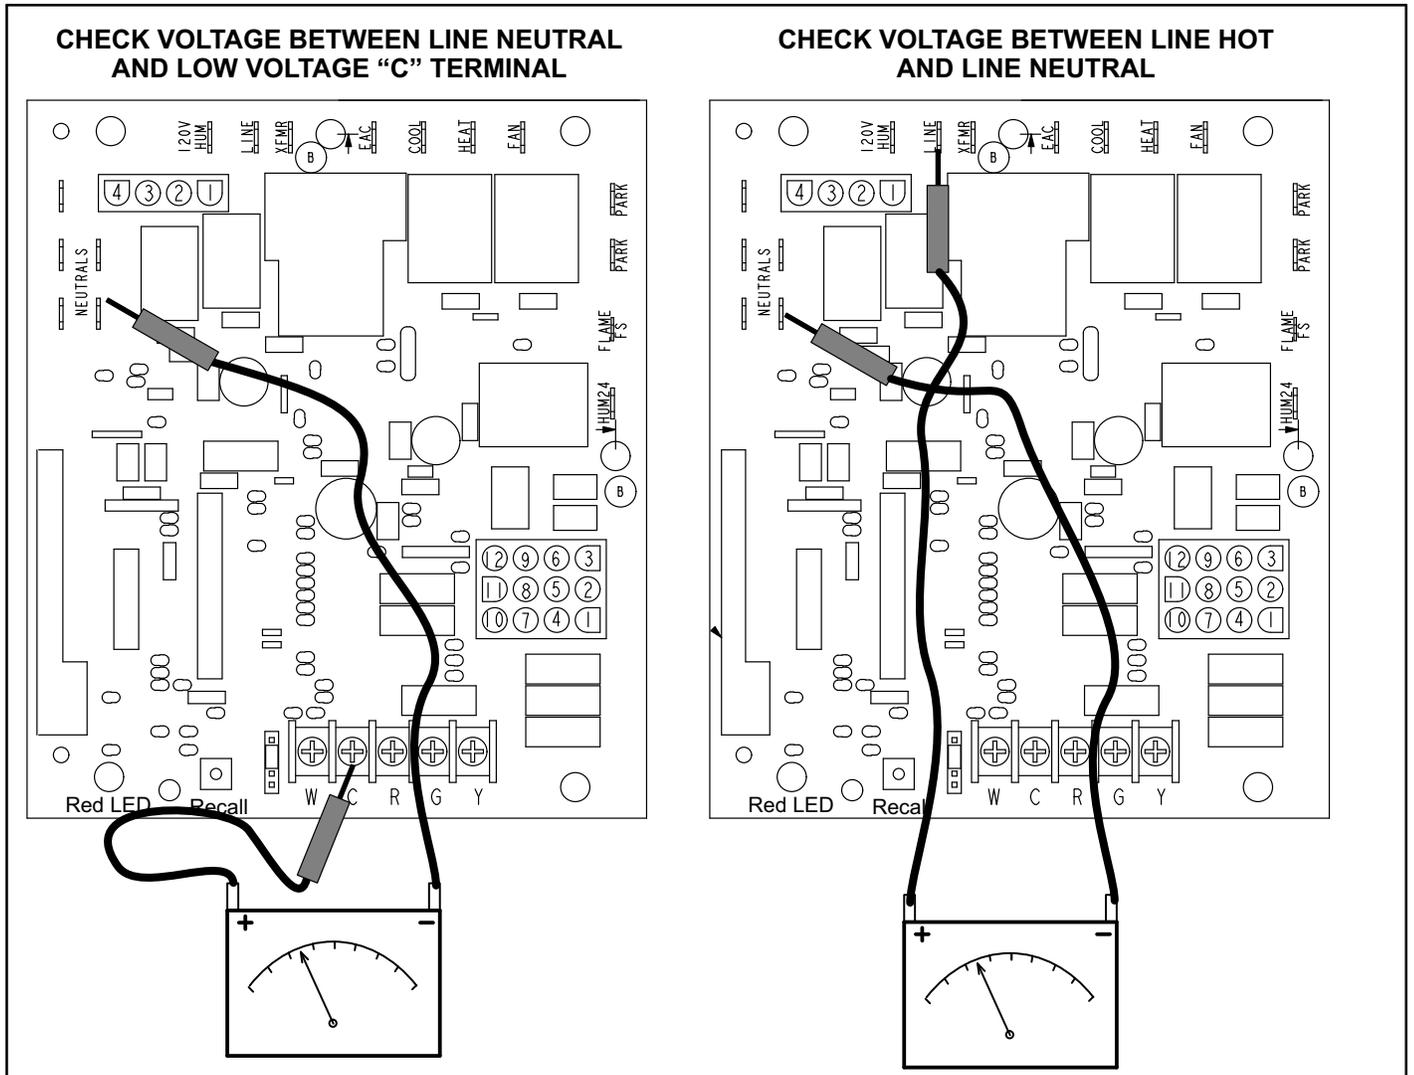

FIGURE 54
- 1 - Measure the AC voltage between LiLP;ne Neutral (spade terminals) and "C" terminal (low voltage terminal block) on the integrated control. See figure 54. A wide variation in the voltage between Line Neutral and "C" as a function of load indicates a poor or partial ground. Compare the readings to the table below. If the readings exceed the maximum shown in table 1, make repairs before operating the furnace.
- 2 - In addition, measure the AC voltage from Line Hot to Line Neutral (spade terminals) on the integrated control. See figure 54. This voltage should be in the range of 97 to 132 Vac
Note - Figure 54 is a typical ignition control illustration.